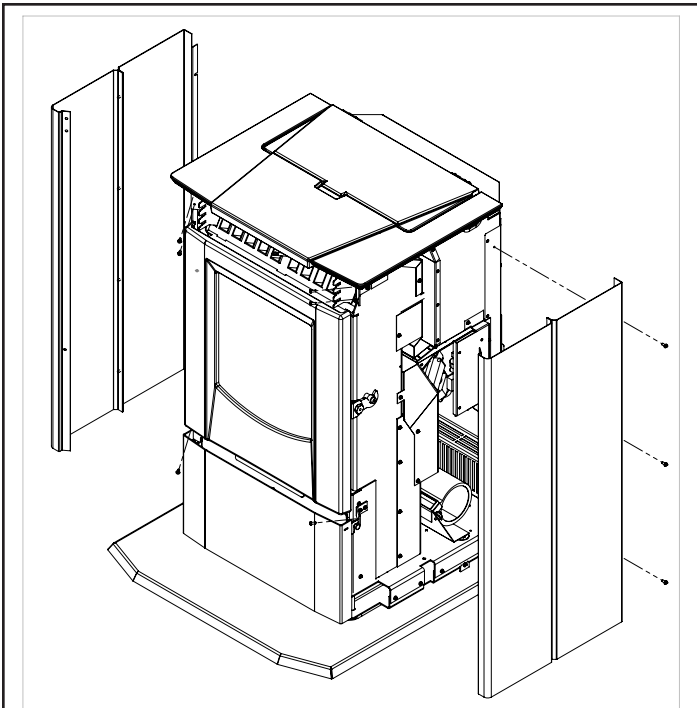

Figure 5: Cabinet Side Install
2. Next install the Cabinet Sides. There are six screws for mounting each cabinet side. Start by installing screws at front top of the panels. Do not fully tighten screws. Now get the back top screws started. Now install the rest of the screws and tighten them down. See Figure 5.